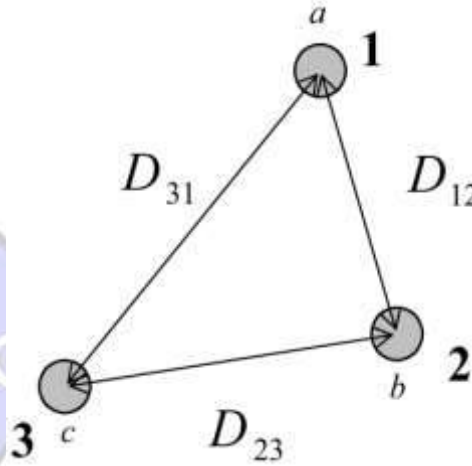

Fig. 24:
- Figure 24 shows a 3-phase transposed line having unsymmetrical spacing. Let us assume balanced conditions i.e.  $Q_A + Q_B + Q_C = 0$